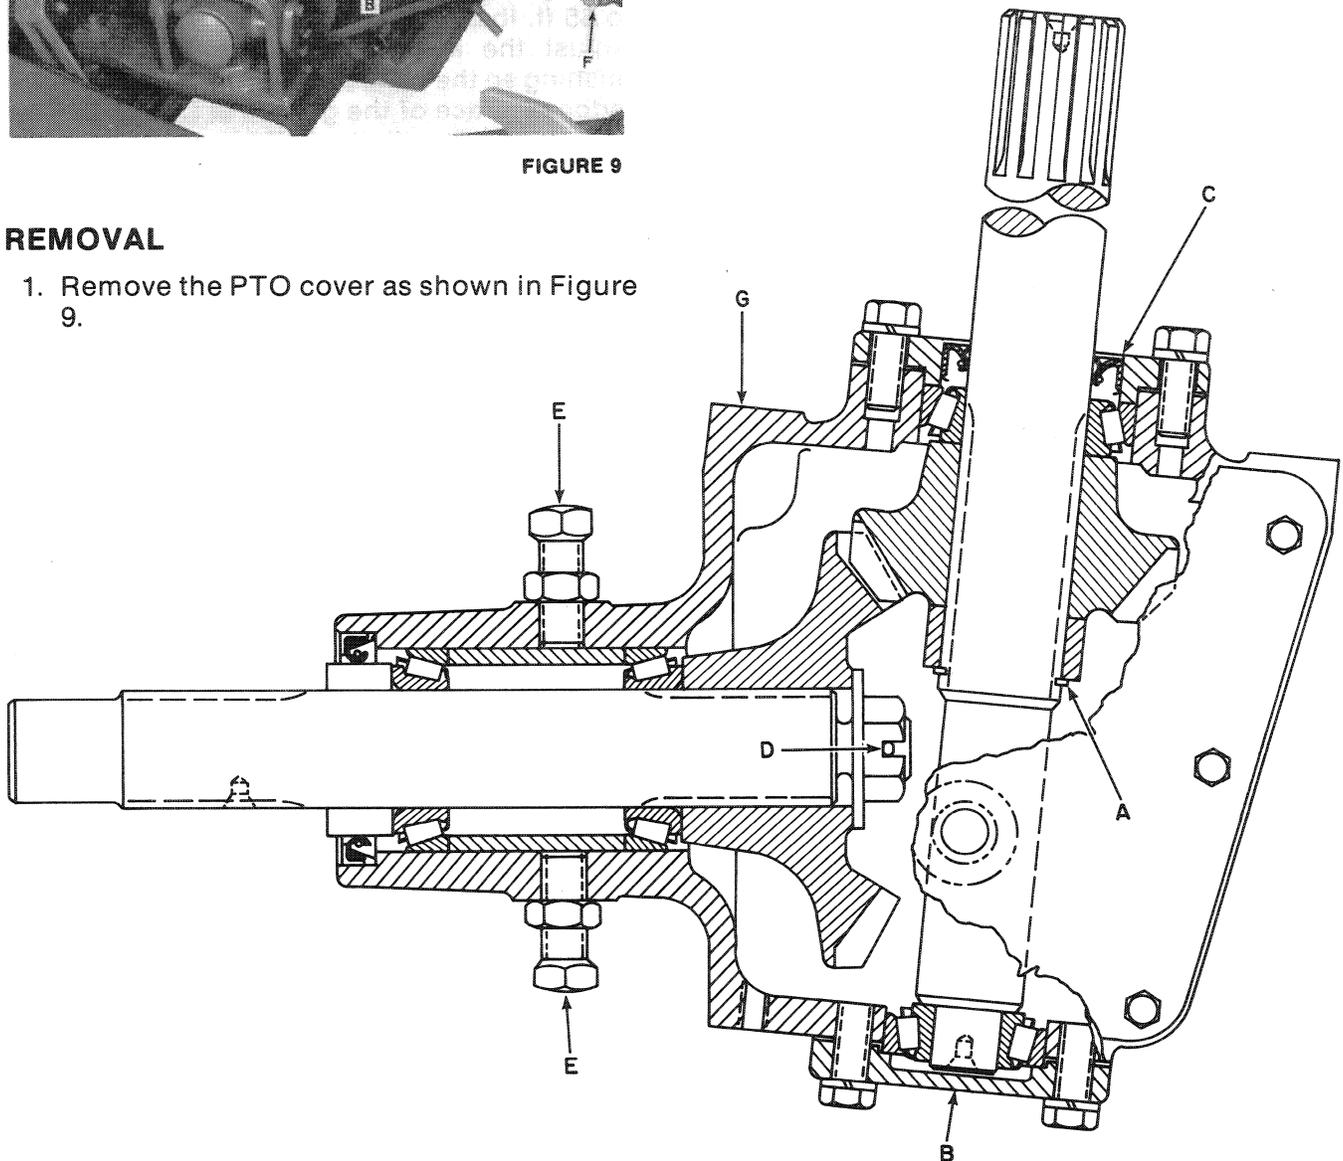

FIGURE 10
2. Remove snap ring, A, Figure 10, from output shaft. Remove bearing caps, B and C, Figure 10.
4. Remove cotter pin, D, Figure 10, nut and flat washer from input shaft.
5. Loosen set screws, E, Figure 10, and remove shaft assembly. Remove bearings and spacer. **NOTE: Clean all parts and carefully inspect all parts for wear or pitting. Replace as required.**
1. Install bearings and spacer on input shaft. Install shaft in gearbox and install bevel gear, flat washer, and nut. Tighten nut to obtain 5-10 in. lbs. (.56-1.13 N·m) torque on bearings and shaft assembly. Install cotter pin, D, Figure 10, and oil seal. **DO NOT TIGHTEN SET SCREWS.**
2. Install output shaft, bearing cup and cone and bearing cap, C, Figure 10. Use same number of shims used previously if original bearing is used. If a new bearing is being used, the number of shims required must be determined.
Example: if the slip of paper with the new bearing has a 12 on it, the gearbox may have "18" stamped on the lower machined surface at G, Figure 10, and the bearing cap, C, Figure 10, may have a "5" stamped on it. This means all three numbers must be added, for a total of 35. This total indicates shims must be used giving a total of .035". Shims are available in sizes .003", .005", .007", and .020". This method will insure that the mounting distances between shafts and gears are correct. Use Permatex® on bearing cap bolts.
3. Install pinion gear, spacer, and snap ring, A, Figure 10. Install bearing cup, cone and cap, B. Use required amount of shims to obtain 5 to 10 in. lbs. (.56-1.13 N·m) torque on output shaft. These shims are also available in .003", .005", .007", and .020" thickness.
4. The backlash between gears must be .004" to .012" at the closest point. To adjust, move input shaft assembly as required and tighten set screws, E, Figure 10, to 50 ft. lbs. (68 N·m) torque. Tighten jam nuts.